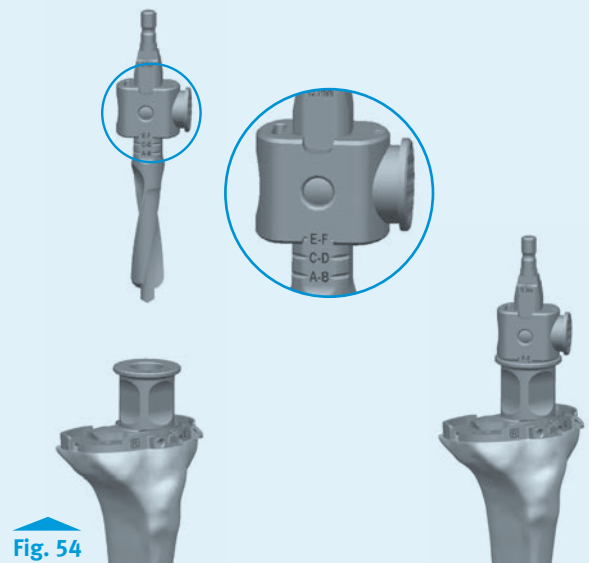

Fig. 54
- After positioning the Cemented Tibial Drill Stop Collar in the proper position, drill through the Cemented Tibial Drill Guide until the Cemented Tibial Drill Stop Collar contacts the Cemented Tibial Drill Guide (Fig. 54). After drilling is complete, remove the Cemented Tibial Drill and Cemented Tibial Drill Guide from the Cemented Tibial Sizing Plate.